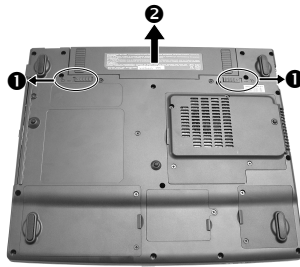

Figure 2-1 Remove the battery pack
2. Slide the two release lever outwards to the “unlock” () position (❶), while take the battery pack out of the compartment (❷). (Figure 2-1)